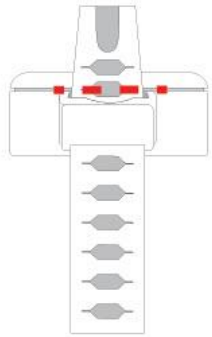
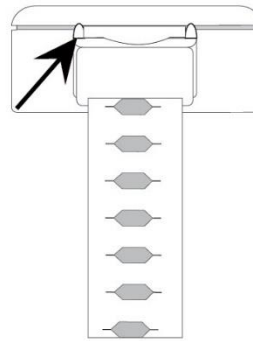

Figure 1.7
Figure 1.8
10. Once the Tag is on the patient and secured correctly cut the excess strap as close to the Tag as possible by cutting flush against the latching mechanism (See **Figure 1.7**). It is very important to cut it as close to the Tag as possible to prevent any strap from possibly rubbing or catching on anything. Gently wiggle strap down to hide any strap that extrudes past the top of the latching mechanism (See **Figure 1.8**)